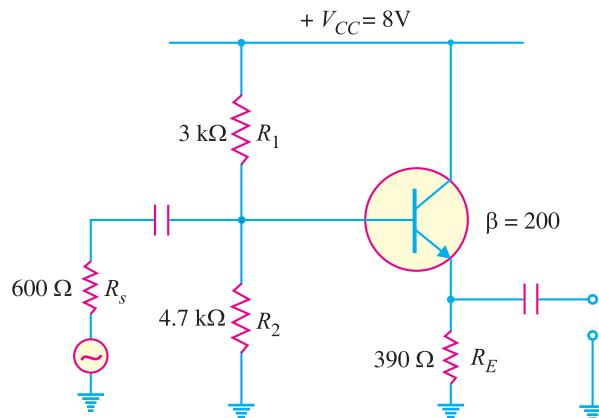

Fig. 13.23
**Example 13.23.** Determine the output impedance of the emitter follower shown in Fig. 13.23. Given that  $r'_e = 20 \Omega$ .